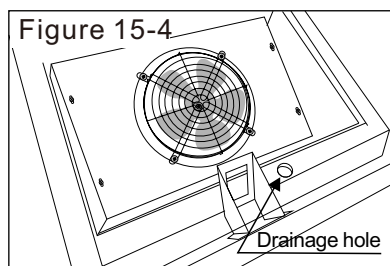
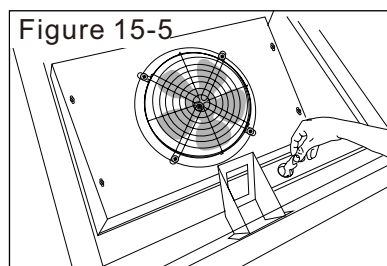

Figure 15-4
Figure 15-5
Step 4: Using a disposable paper towel, reach down into the drainage area and remove any dirt, debris, insects or other foreign objects whilst taking care not simply to push them into the drainage hole. The aim is to remove them, not to push them into the drain which could easily become blocked by doing so. Carefully sanitise the exposed area under the evaporator cover and also the drainage area. (Figure 15-4 and Figure 15-5)